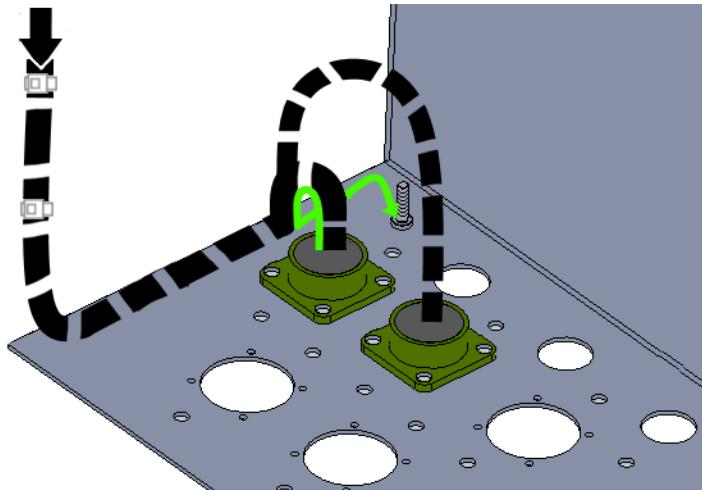

**Figure 1 Install Ring Terminal**
- Step 1. Install the 8-pin (size 22) voltage input receptacle harness in the bottom of the cabinet in the center hole in the back row. See *Figure 1*.
- Step 2. Install the smaller ring terminal of the green/yellow ground wire and the two drain wires to the last connector screw and secure them with the last nut. See *Figure 1*.
- Step 3. Use the existing nut to connect the larger ring terminal of the green/yellow ground wire to the ground stud. See *Figure 1*.